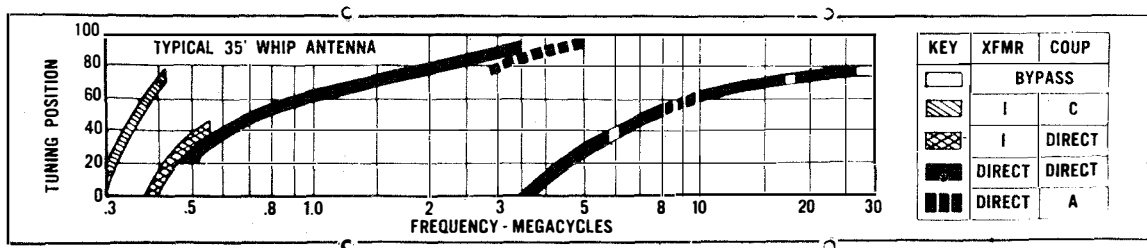

Figure 4-11. Tuning Chart on Radio Frequency Oscillator Front Panel
*Step 1.* Place STANDBY-OPERATE switch (PP) in STANDBY on LVPS and check LOCAL-REM switch (X) for LOCAL position.
*Step 5.* Set the BANDSWITCH (C) in the RFA to the band in which the selected frequency falls.
*Step 6.* Set the EXCITATION (Z) control in the RFA at its maximum clockwise setting.
*Step 7.* On the under side of the hinged flap, which is mounted on the door covering the frequency selection knobs on the RFO is a tuning chart (figure 4-11) used for presetting the controls on the control-indicator. If the tuning chart indicates BYPASS for the selected frequency, the ANTENNA TRANSFER (AE) control should be set to BYPASS, and no further tuning will be required on the control-indicator. For other frequencies, set the TRANSFORMER (AC) control and the ANTENNA COUPLER LOADING (AD) control to the positions indicated under the XFMR and COUP columns, respectively, of the tuning chart according to the frequency being transmitted. The (AE) control should be set to the TUNER IN position. Set SWR CALIBRATE (AB) control to 8:1.
*Step 8.* Set both the INPUT TAP (V) and the OUTPUT TAP (W) on the load adjusting unit to position 4.
*Step 9.* Place STANDBY-OPERATE (PP) switch in OPERATE.
*Step 10.* Throw the TEST KEY (T) on the LLRM to its locking position, which will energize a carrier.
*Step 11.* With the VOLTMETER-METER SELECTOR (J) in the RF IN position, the voltmeter reading should not exceed 5 volts. If it does, adjust the EXCITATION (Z) control to reduce the reading to 5 volts maximum.
*Step 12.* Loosen the dial lock of the TUNE IPA (B) control. Set the TUNE IPA (B) control for maximum output of the buffer and IPA stages. Maximum tuning of these stages is indicated by maximum PA grid drive as shown by a maximum reading on the PA CURRENT meter in the RFA with the PA-METER SELECTOR (H) in the Ic1 position. In tuning, two peaks may be noted on the PA CURRENT meter. The TUNE IPA (B) control should be set to the peak at the lowest TUNE IPA dial reading to insure that the tuning is to the desired